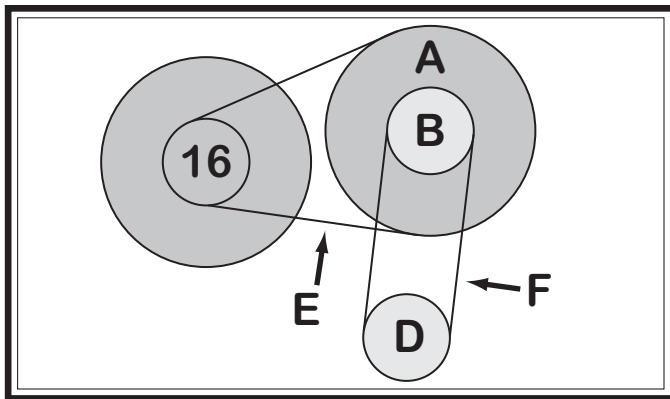

Figure 61. Threading timing belt and pulley configuration.
6. Arrange the timing belts and pulleys as indicated in the illustration above the threading chart (see **Figures 61–62**) and the pulley and belt identification column in the chart.